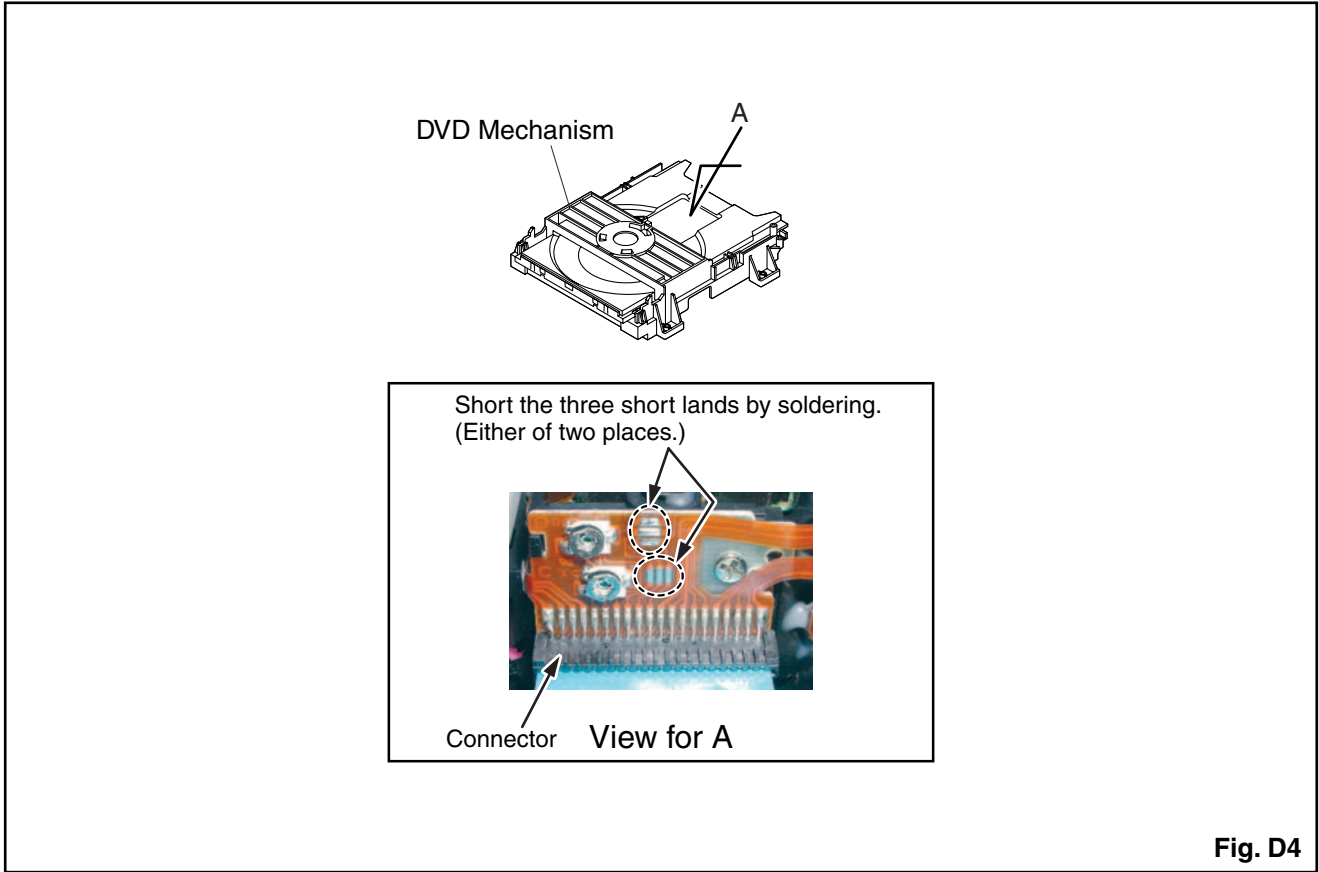

Fig. D4
- 2) Short the three short lands of FPC cable with solder before removing the FFC cable (CN201) from it. If you disconnect the FFC cable (CN201), the laser diode of pickup will be destroyed. (Fig. D4)
3. **CAUTION 3:** When reassembling, confirm the FFC cable (CN201) is connected completely. Then remove the solder from the three short lands of FPC cable. (Fig. D4)